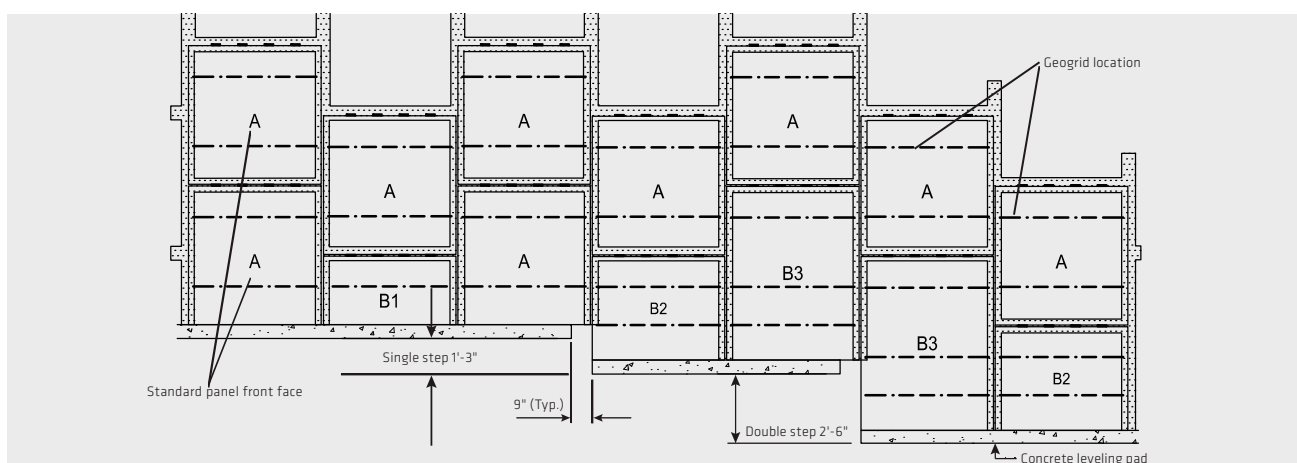

FIGURE 8: Example of leveling pad and typical panels configuration.
- ▶ Where steps in the leveling pad are shown on the approved construction drawings, the actual location of each step should be located and the bulkhead for the upper leveling pad step set back 9 in. (225 mm), nominal. (Figure 8 below and Image E on pg. 9)
- ▶ The bottom course is made up of alternating tall panels and half panels (Figure 8 on pg. 8), with the tall A and B3 panels above the half B1 and B2 panels.